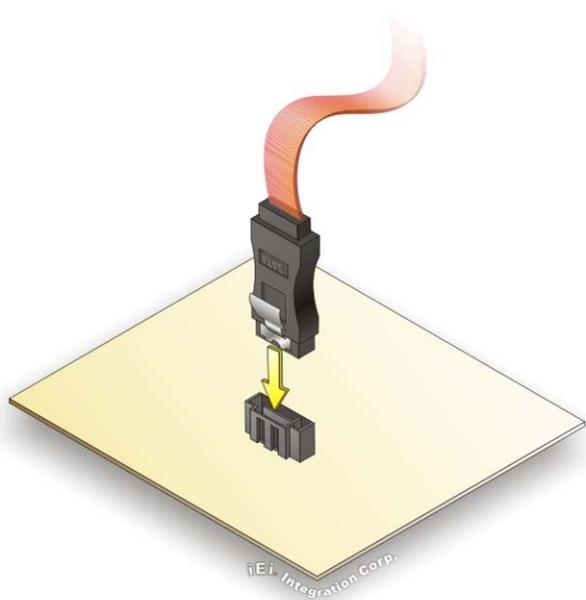

Figure 4-16: SATA Drive Cable Connection
Step 2: Insert the cable connector. Insert the cable connector into the on-board SATA drive connector. See **Figure 4-16**.